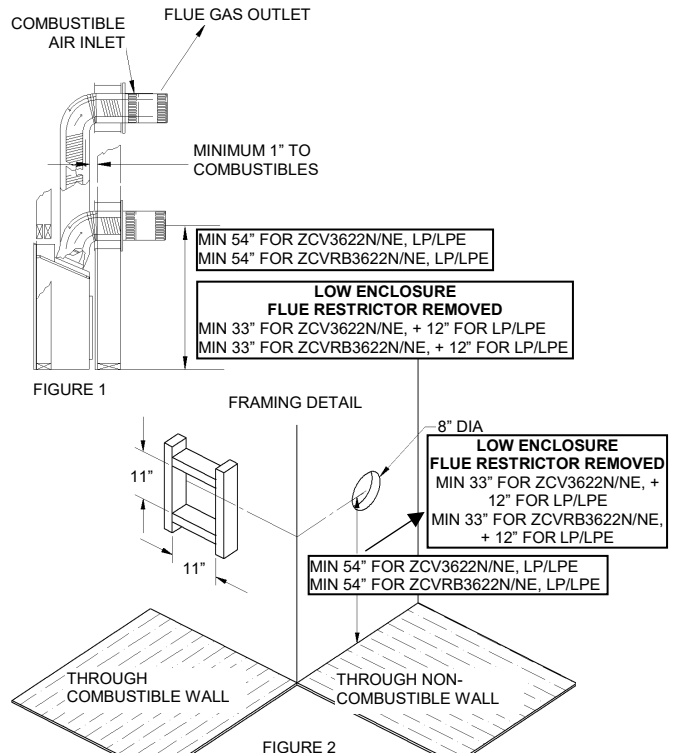

FIGURE 2
- To determine the minimum distance from the bottom of fireplace to center of vent see the **Framing Your Gas Fireplace** section. Cut a hole through the wall allowing for an 11" x 11" (inside diameter) in combustible walls for wall thimble or an 8" diameter hole in a non-combustible wall (See Figure 2).